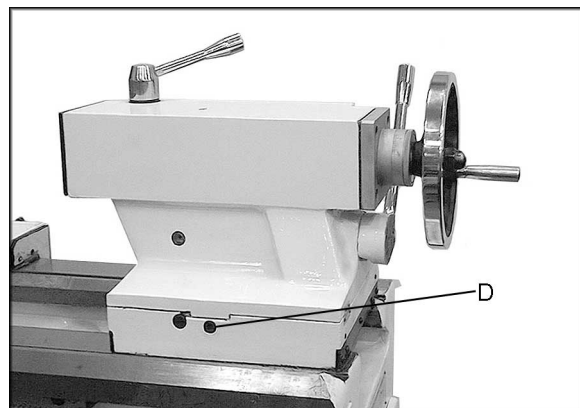

Figure 21
3. If adjustment is needed, align the tailstock using the off-set screws (D, Figure 21) until the tailstock is aligned.